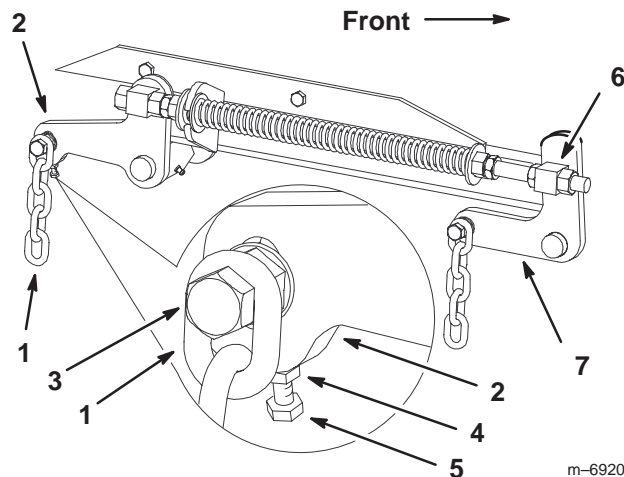

Figure 60
7. If the measurements at positions **B** or **C** are not correct, loosen the bolt attaching the rear chain to the rear support arm (Fig. 60).